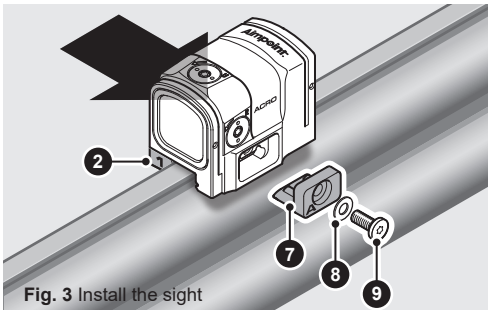

Fig. 3 Install the sight
- a Install the support base plate (2) (**1/2/3/4**) to the sight.
- b Assemble the locking base plate (7) (**A/B/C/D**), the washer (8) and the screw (9) and install to the sight (do not fully tighten the screw).
- c Place the sight on the shotgun rib. Press against the left hand side of the sight (see arrow in fig. 3) against the shotgun rib and tighten the screw (9) using the tool (10D) until fully tightened (MAX. 3 Nm / 2.2 ft-lb of torque). Ensure the locking base plate (7) is installed parallel to the sight housing.